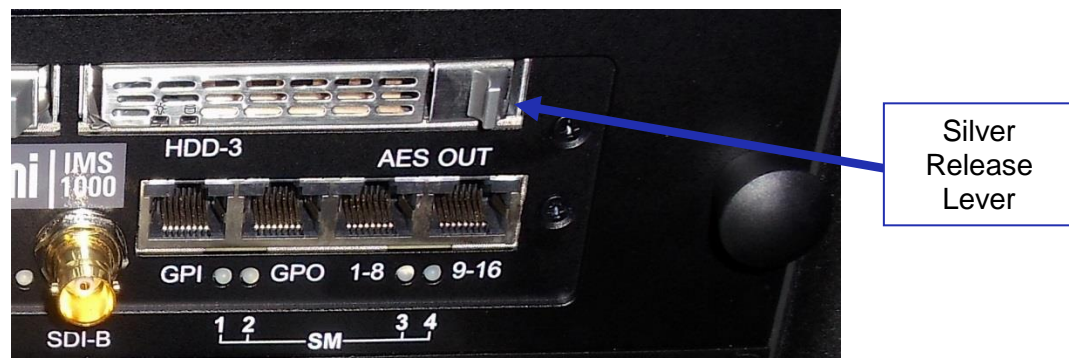

Figure 46: Silver Latch on HDD
- Each HDD has a silver latch mechanism that allows for unlatching of the drive from the hard drive cage (Figure 46).
- For each HDD, press on the silver release lever on the front side in order to release the spring loaded HDD carrier handle (Figure 46).